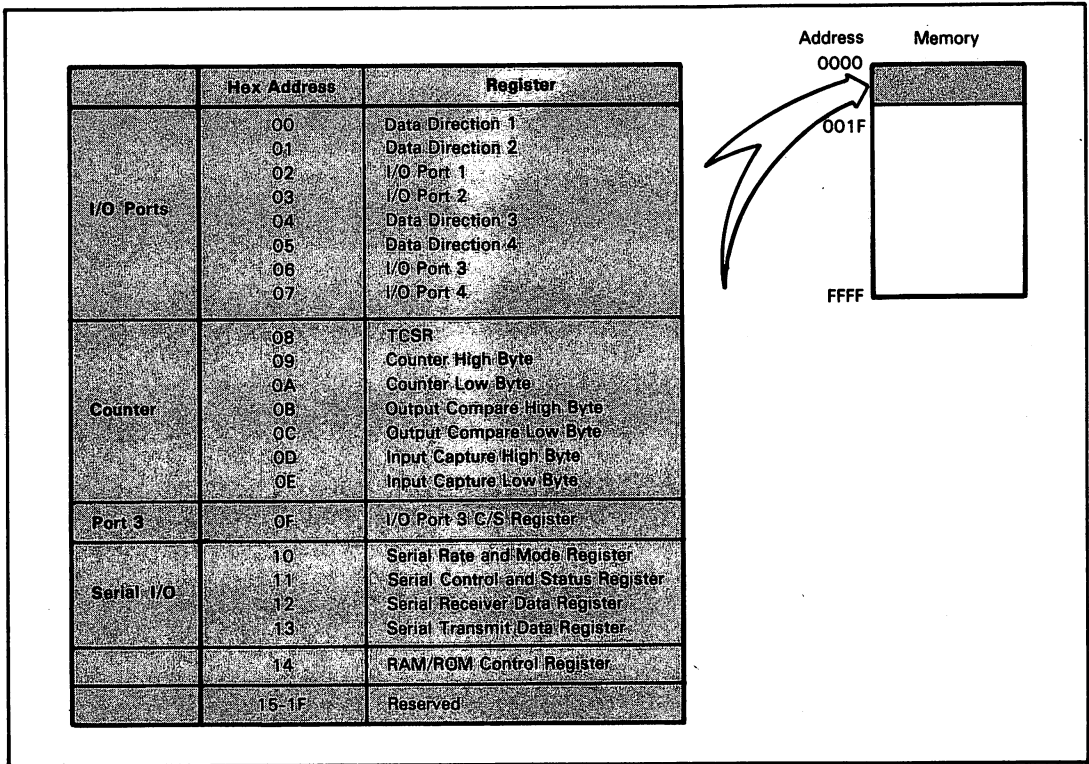

Figure 9-44. MC6801 Internal Registers
**The MC6801 reserves the first 32 address locations (0000-001F) for use as internal registers.** Currently, only the first 15 of these locations are assigned for specific functions. **Figure 9-44 illustrates and lists the function of each of the registers located in this address space.** As you can see in this figure, some of these registers are used to control and access the four I/O ports, while the others are used for the programmable timer and serial I/O functions of the MC6801. We shall describe how each of these registers is used when we describe the associated logic functions. At this point we shall merely point out that these address locations are not part of the internal RAM area. That is, although these internal registers might be considered read/write memory in the pure sense of that definition, any attempt to write to an address location in the memory space occupied by the internal registers will always result in a modification of the contents of these registers.
Each of the four MC6801 I/O ports has two registers associated with it: a Data Direction register and a Data register or buffer. All of these registers are internal (on the MC6801 chip) and occupy address locations 000016 through 000716 (as shown in Figure 9-44).